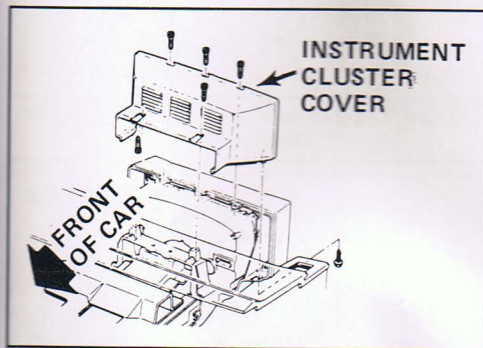

Figure 1 - Instrument cluster cover
1. Remove the Torx screws from the instrument cluster cover. See Figure 1. Remove the cover.